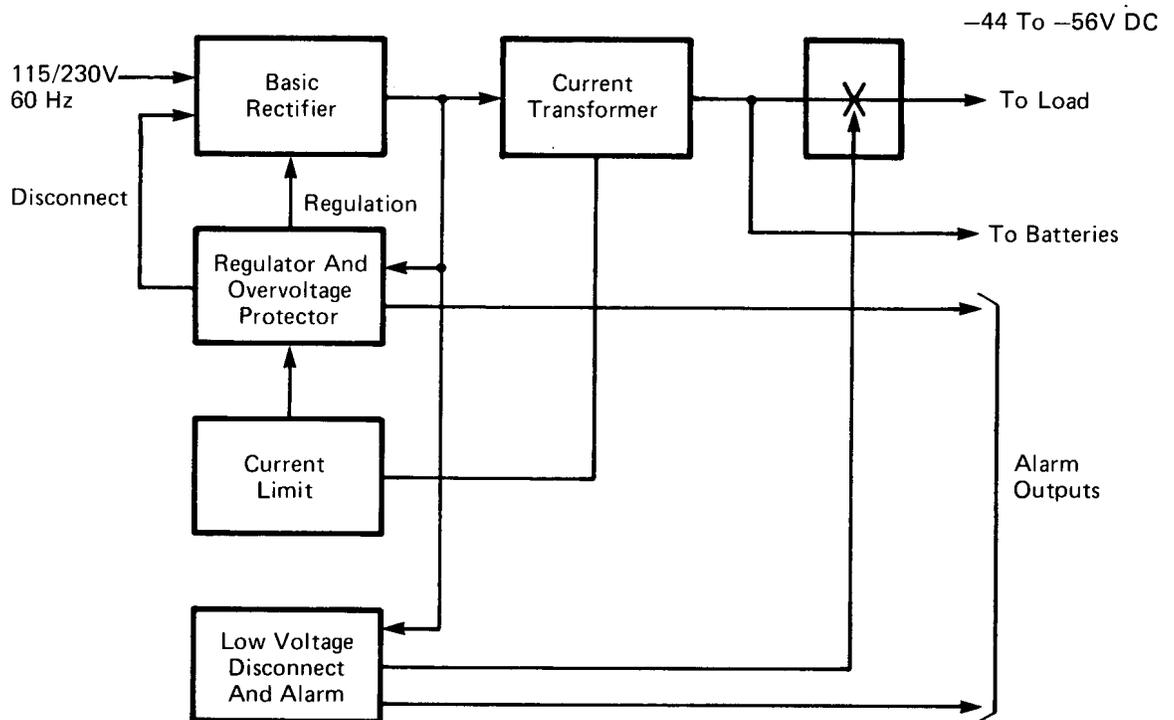

Fig. 14 -- J2357E Rectifier Block Diagram
- (b) from the J2357E rectifier (Fig. 14) and backup battery supply through the fuse panel.